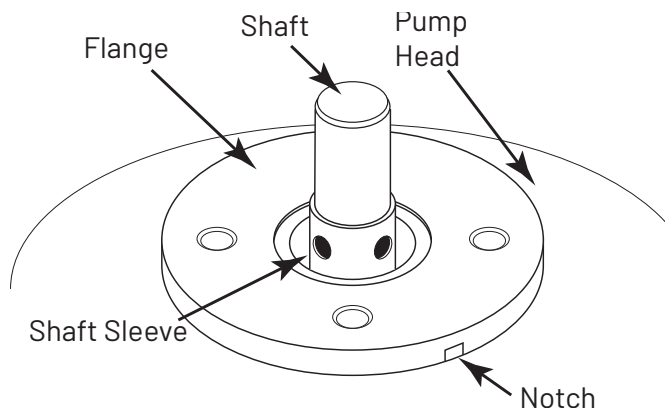

Figure 8 – Seal Removal
3. Remove the four retaining bolts (69) that hold down the seal flange and seal.
5. Using the three round holes on the top of the shaft sleeve, or notch in flange (see Fig. 8), remove the remaining portions of the seal.